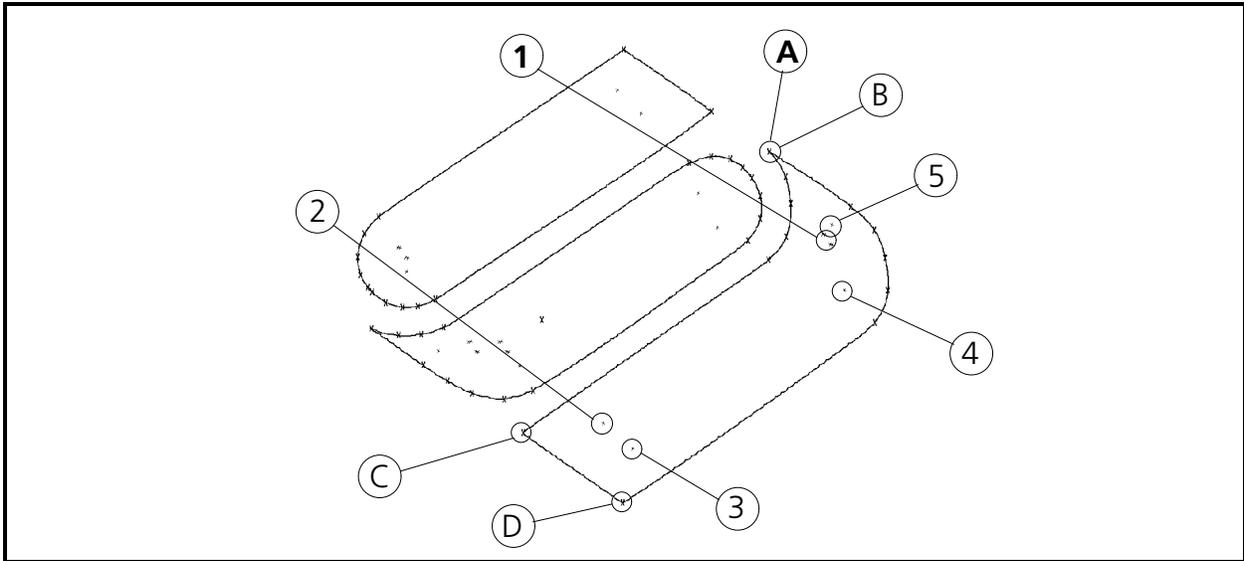

Figure 6-79
13. Generate lock stitches near point D, move to point 1 in Figure 6-79 with the needle up / normal stitch sequence, and generate another set of lock stitches to get ready for the last section of the Saurer logo fill stitching.